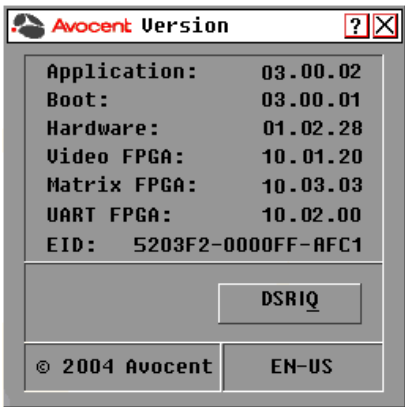

Figure 3.19: OSCAR Interface Version Dialog Box
2. Click *Commands - Display Versions* to open the Version dialog box shown in Figure 3.19. The top half of the box lists the subsystem versions in the DSR switch.
2. Click *Commands - Display Versions* to open the Version dialog box shown in Figure 3.19.